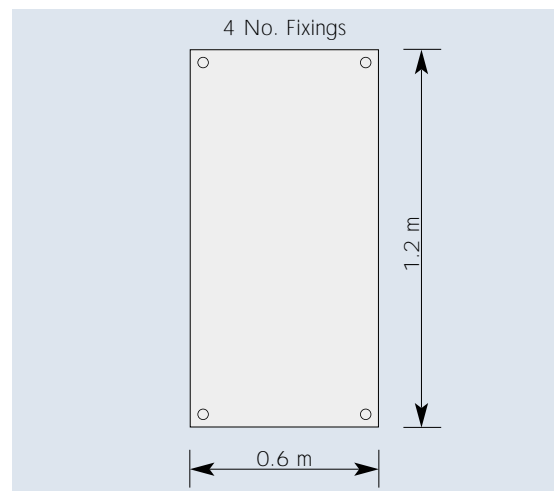

Figure 1 TYPICAL MECHANICAL FIXING PATTERN
On metal decks, **Kingspan Therma**roof TR21 zero ODP should be laid into hot bitumen (max. temperature 240°C) mopped or poured over the vapour control layer. Alternatively the boards can be secured using mechanical fixing systems (see Figure 1). **Kingspan Therma**roof TR21 zero ODP should be laid break-bonded with its long edges at right angles to the trough openings, or alternatively, diagonally across the corrugation line. Whichever system is chosen, care must be taken to ensure that all joints are supported by the deck. The joints should be lightly butted. Taping of the joints is not required.
Concrete decks should be clean, dry, without large projections, steps or gaps, and should be graded to allow correct falls to all rainwater outlets. To ensure an adequate bond between the vapour control layer and the concrete deck, the concrete or screeded surface should be suitably primed, in accordance with the specified manufacturer's instructions. The vapour control layer should be fully bonded to the deck and similarly the **Kingspan Therma**roof TR21 zero ODP to the vapour control layer by laying into hot bitumen mopped or poured over the vapour control layer. Alternatively the boards can be secured using mechanical fixing systems (see Figure 1). The boards should be laid break-bonded with all joints lightly butted.
**Kingspan Therma**roof TR21 zero ODP should be fully bedded in hot bitumen over a continuous vapour control layer which has been nailed or bonded to the deck with laps at the side and end sealed with hot bitumen. Alternatively the boards can be secured using mechanical fixing systems (see Figure 1). The joints should be break-bonded and the boards laid at right angles to the edge of the roof or diagonally across the roof. All joints should be lightly butted.
On woodwool slab decks, **Kingspan Therma**roof TR21 zero ODP should be fully bedded in hot bitumen over a continuous vapour control layer. Boards should be laid with their long edges at right angles to the slabs, or preferably diagonally across the roof. Alternatively boards can be secured using specialist mechanical fixing systems (see Figure 1). Board joints should not coincide with those of the slabs. The roof boards should be laid break-bonded, with all joints lightly butted.
The requirement for additional fixings should be assessed in accordance with BS 6399: Part 2: 1997 (Code of practice for wind loads). (see Figure 1).